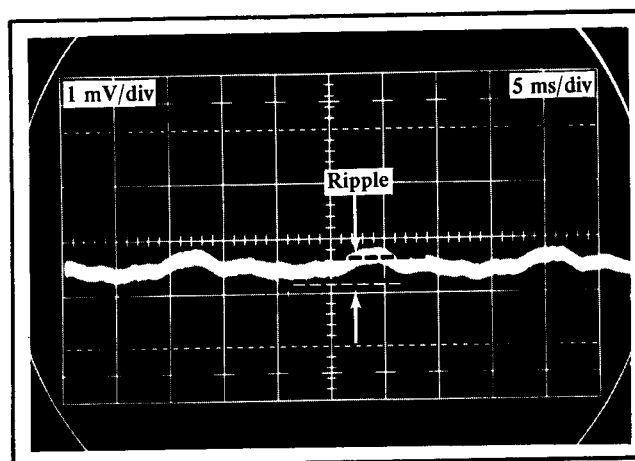

Fig. 5-2. Typical display of ripple.
c. Change the autotransformer output voltage from 90 volts to 136 volts and check that the ripple as observed on the oscilloscope does not exceed 1 mV (1 division); see Fig. 5-2. Measure from trace bottom at a low point to trace bottom at a high point.